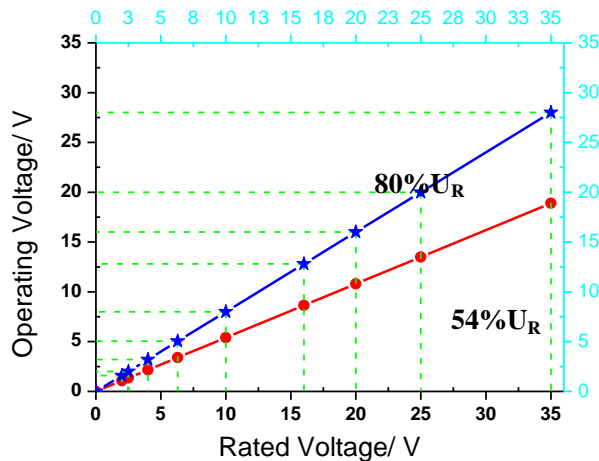

Fig7.5-1
- a. The operating voltage of tantalum capacitors used in low impedance circuits, such as filters for power supplies (particularly switching power supplies), should be derated to less than **54%** of rated voltage. In other case, keep the operating voltage below **80%** of rated voltage. Refer to **Fig.7.5-1** for detail:
could not be applied; please make sure operating voltage is below 54% of rated voltage (Fig.7.5-1).